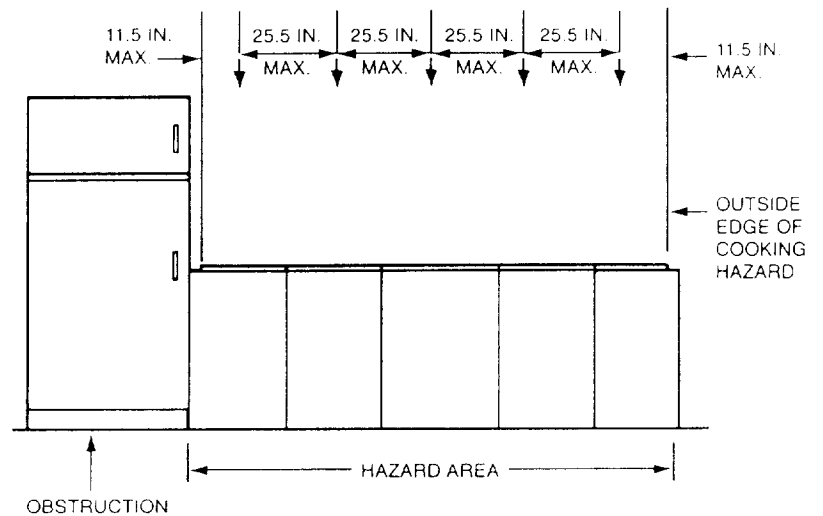

FIGURE 5
- When taller appliance(s) or other obstructions are located adjacent to appliance(s) protected by overlapping nozzles, the overlapping appliance nozzle spacing must start with the appliance(s) adjacent to the obstruction. See Figure 5.